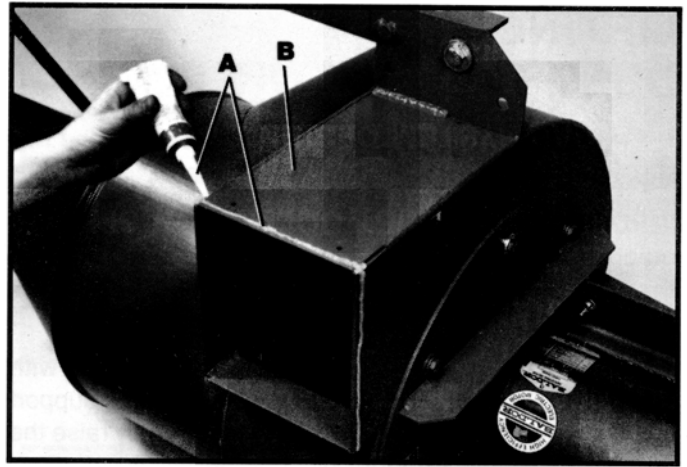

Fig. 15
1. Apply a bead of sealant (A) Fig. 15, around the opening of fan housing (B) as shown.